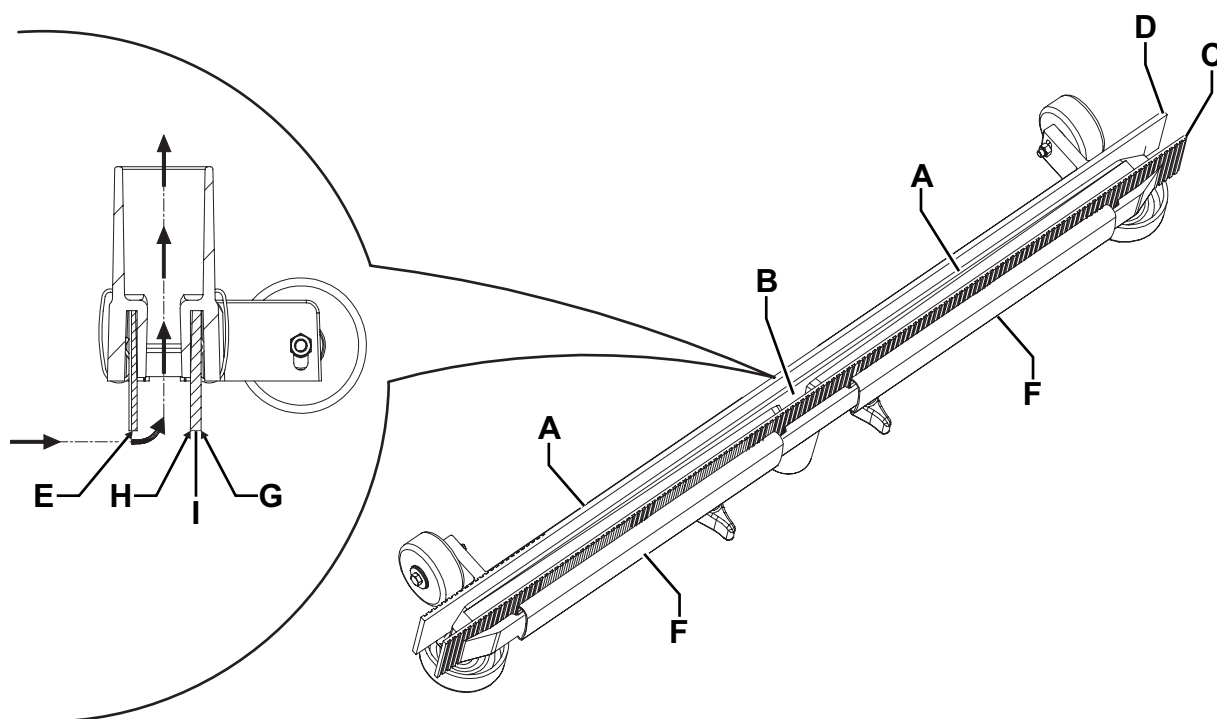

Figure 7
2. Check that the knob (62) is turned to "0".
3. Lower the squeegee with the pedal (19).
4. Disconnect the vacuum hose (22) from the squeegee.
5. Loosen the handwheels (12) and remove the squeegee (11).
6. Wash and clean the squeegee. In particular, clean the compartments (A, Fig. 7) and the vacuum hole (B) from dirt and debris.
7. Check the front blade (C) and the rear blade (D) for integrity, cuts and tears; if necessary replace them (see the procedure in the following paragraph).
2. Check that the front blade edges (E, Fig. 7) and the rear blade edges (I) lay down on the same level, along their length; if necessary adjust the height according to the following procedure:
- Remove the mounting springs (F), then adjust the front blade (C) and the rear blade (D).
3. Check the front blade (C) and rear blade (D) for integrity, cuts and tears; if necessary replace them as shown below. Also check the front corner (H) of the rear blade for wear; if it is worn, overturn the blade to replace the worn corner with the other one (G), if it is integral. If the other corner is worn too, replace the blade according to the following procedure:
- Remove the mounting springs (F) and then replace (or overturn) the rear blade (D).
4. Install the squeegee (11) and screw tighten the handwheels (12).
5. Connect the vacuum hose (22) to the squeegee (11).